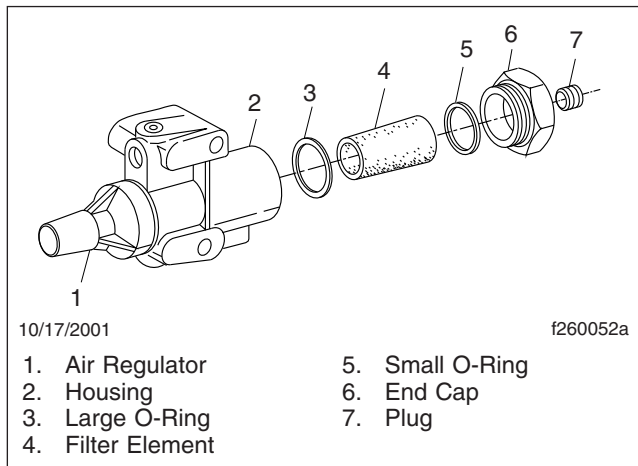

Fig. 10, Eaton Fuller Transmission Air Filter/Regulator Components
3. Remove the end cap, large O-ring, and filter element from the filter housing. See Fig. 10. Remove the small O-ring from the end cap.